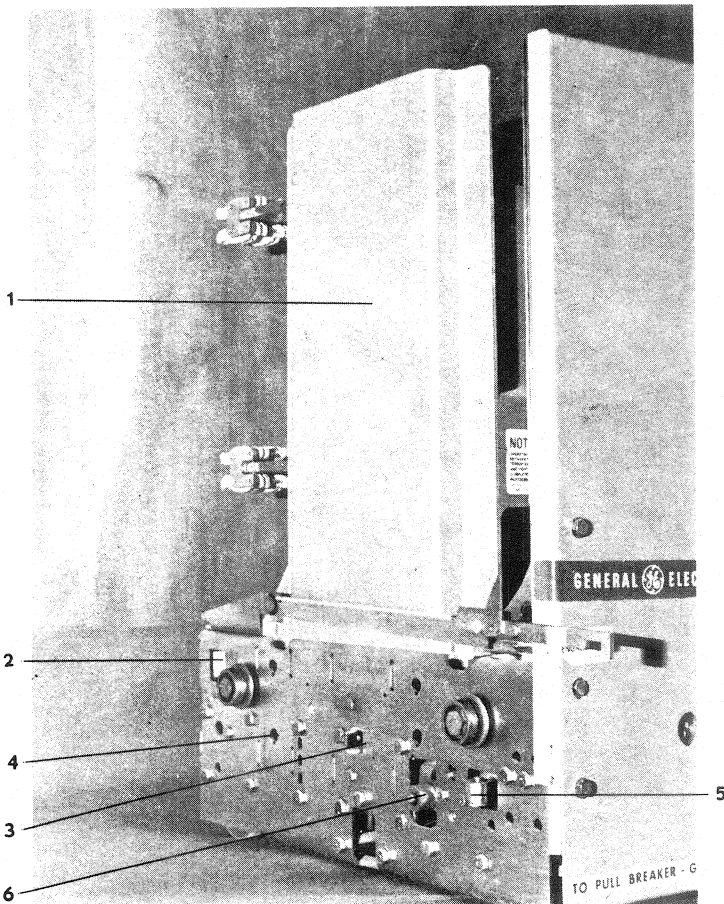

Fig. 9. Power/Vac\* Breaker — Left Side View
The function of the negative trip interlock, (5) Fig. 9, is to disengage the trip latch from the trip latch roller thereby preventing a closing operation. The interlock also opens the latch checking switch (52LCS) in the closing circuit thereby removing the close circuit power. The negative interlock is in operation while the breaker is moving between the "Disconnect/Test" position and the "Connect" position. A redundant Negative trip interlock, (6) Fig. 9, is a backup to the NEGATIVE TRIP INTERLOCK and provides the same function except it operates only near the connect position.
The positive interlock, (3) Fig. 9, operates to prevent the racking of a breaker that is closed. A linkage connected to the horizontal connecting bar extends a detent bar out from the side of the mechanism frame when it is in the closed position. If the closed breaker is in the "Connect" or "Disconnect/Test" position in the metalclad the detent bar locks into the racking mechanism to prevent access to the hex section of the jack screw. The positive interlock also prevents the lift truck from picking up a closed breaker.